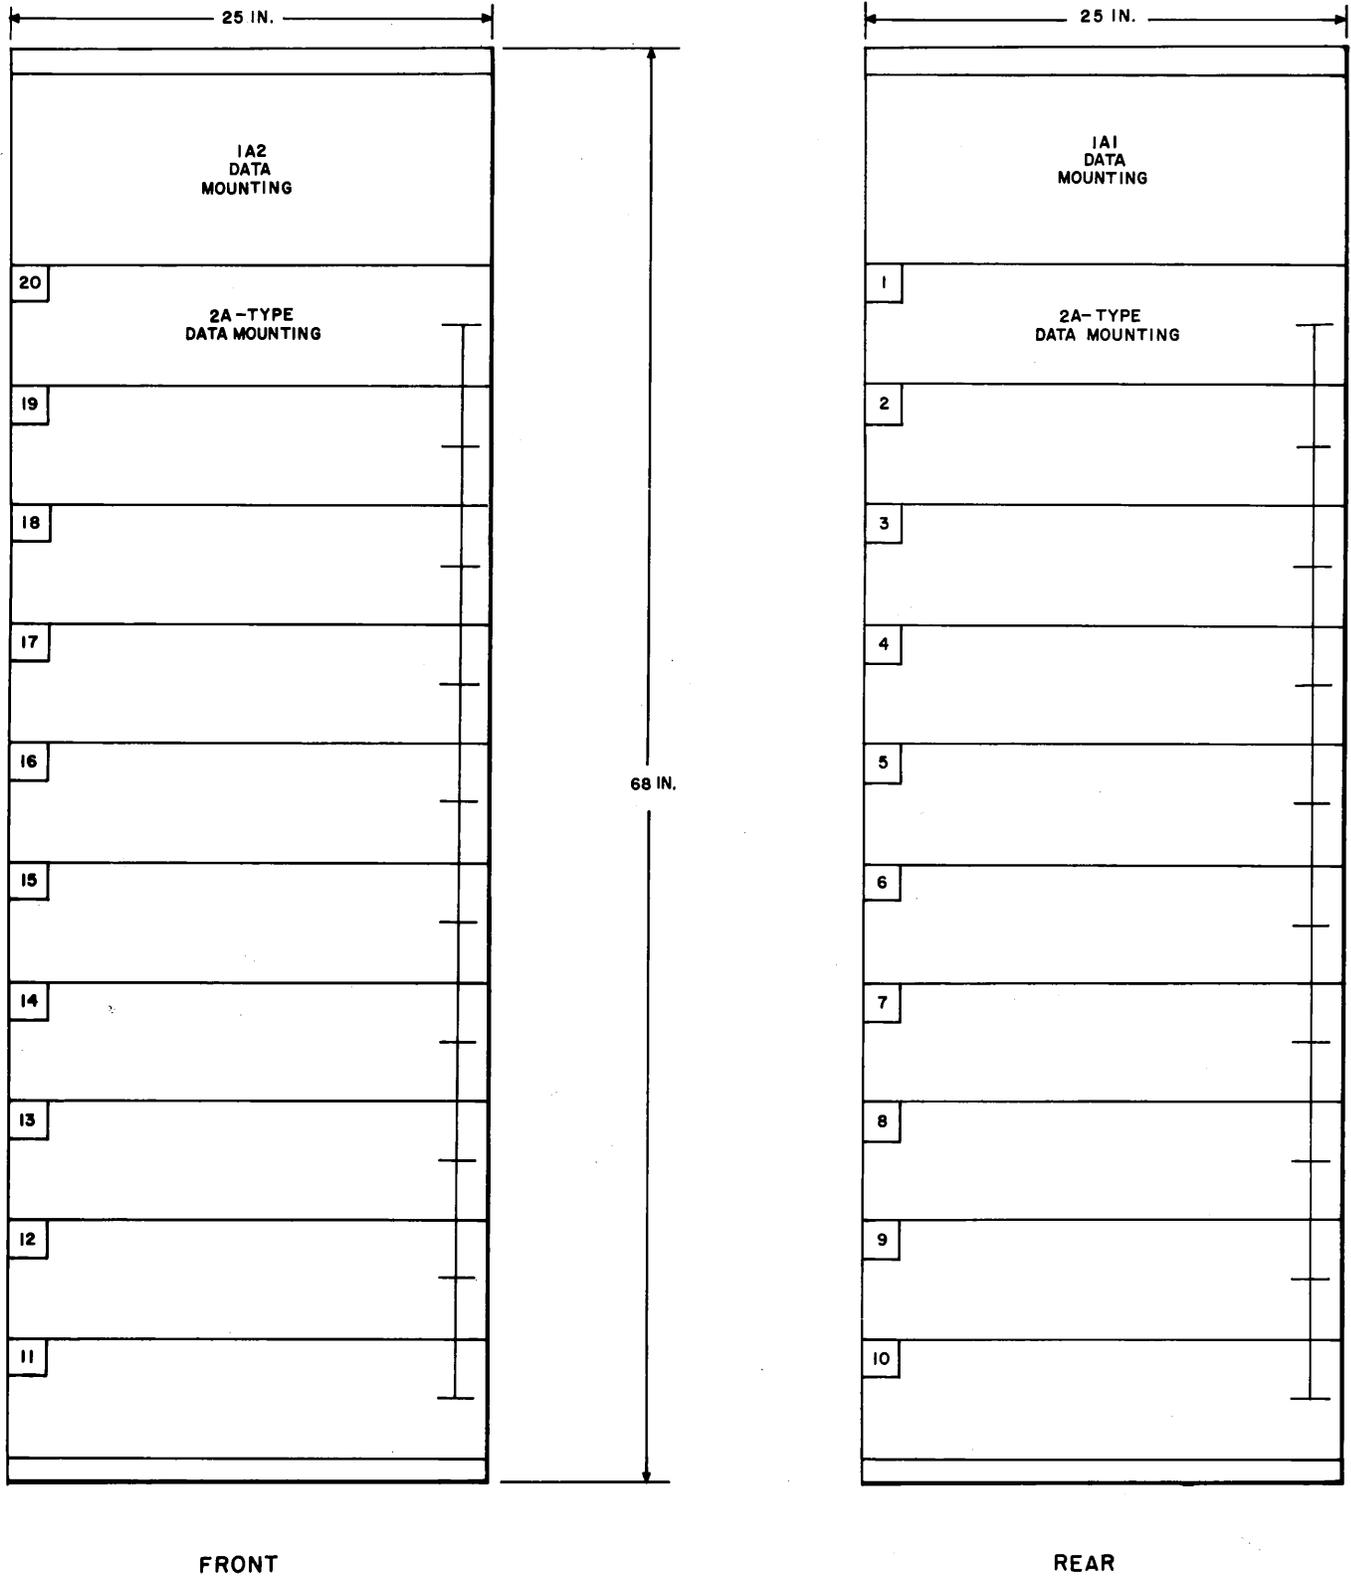
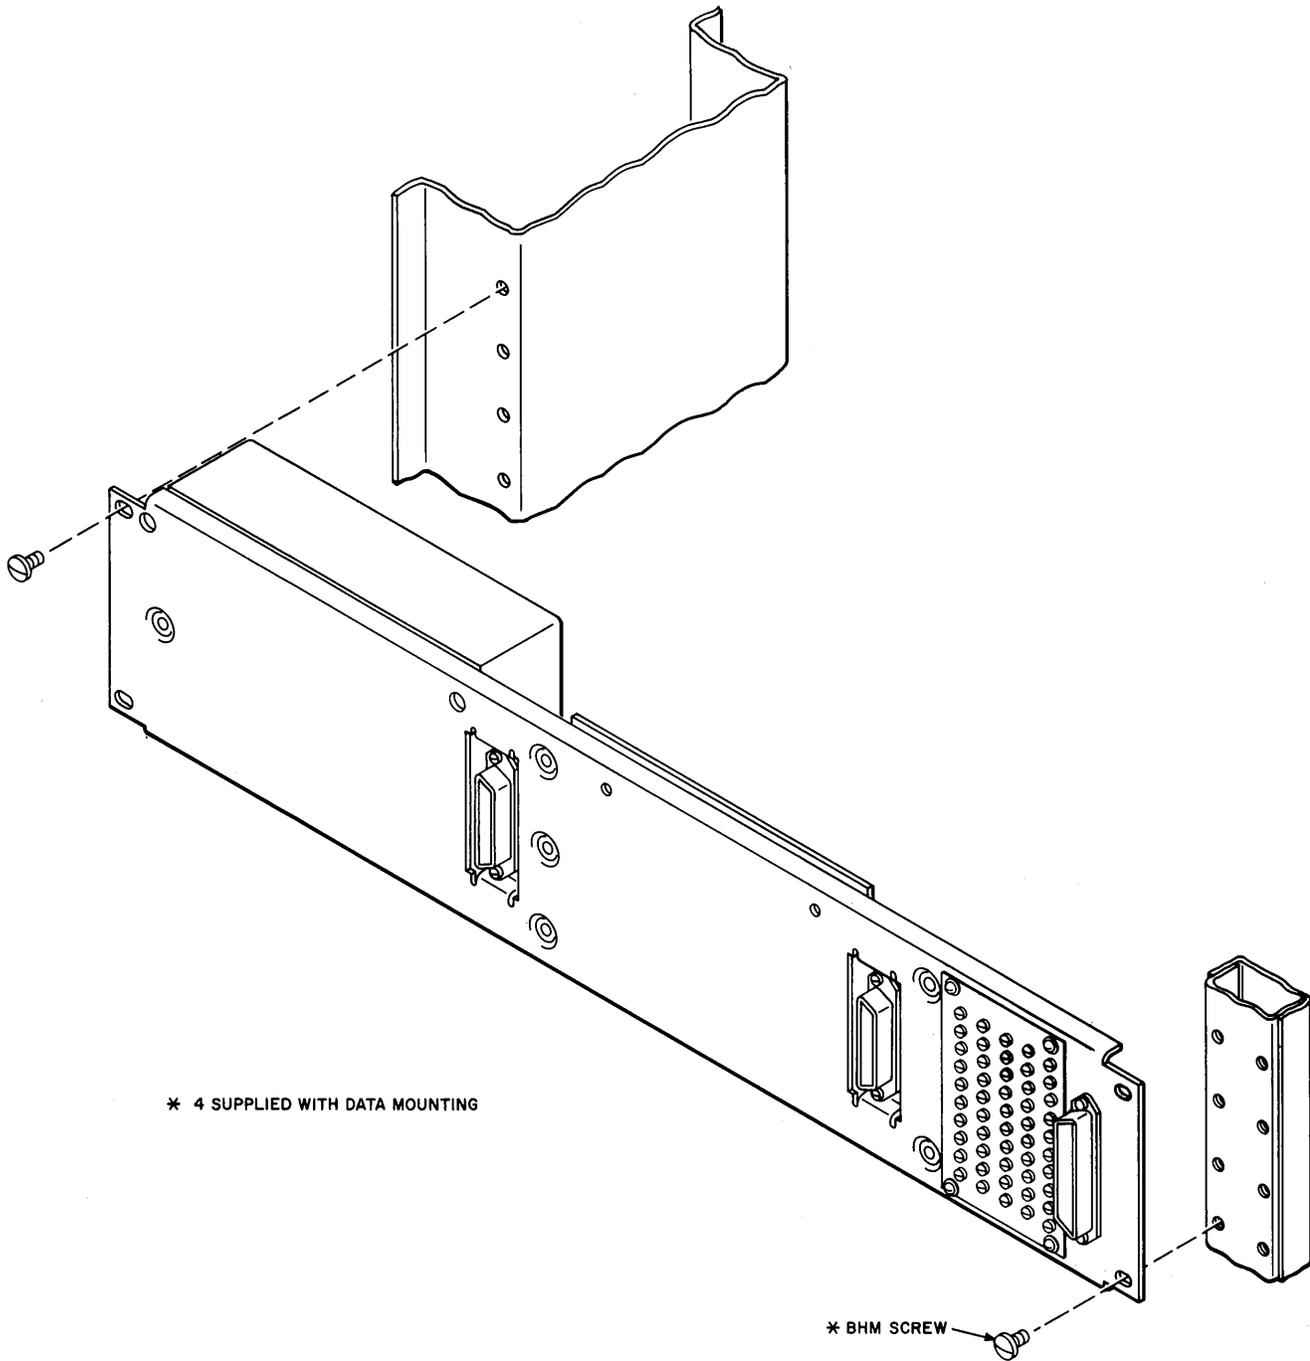

Fig. 3—Physical Layout of KS-20093-L1 Cabinet When Completely Filled With Data Sets—No Provisions for Data Auxiliary Sets 801-Type
Fig. 10—Details for Mounting 2A1 Data Mounting
2.05 When the cabinet is to be completely filled with data sets but not equipped with Data Auxiliary Sets 801-type, the configuration shown in Fig. 3 is followed. The front-mounted 1A2 Data Mounting is installed at the top front of the cabinet and the 2A1 Data Mountings are numbered from the bottom to the top.
3.08 Installation of the data mounting should be in accordance with Fig. 10.
3.09 Repeat the procedure shown in Fig. 10 for the remaining data mountings to be installed on the rear of the cabinet until ten data mountings are installed (Fig. 3).
3.10 The remaining 2A1 Data Mountings for the data station are installed on the front of the cabinet starting with the second mounting hole from the bottom and working up toward the 1A2 Data Mounting (Fig. 3).
3.11 Installation of the data mounting on the front is the same as on the rear (Fig. 10).
3.12 Repeat the procedure shown in Fig. 10 for the remaining data mountings to be installed on the front of the cabinet or until ten data mountings are installed (Fig. 3).
3.16 Installation of the data mountings should be in accordance with Fig. 10.